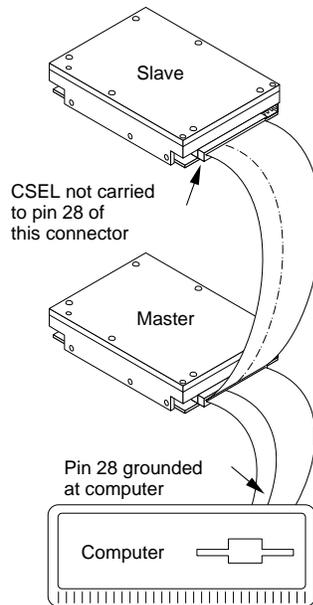

Figure 5. Connecting cable-selected drives
- Connect the drives to the cable as shown in Figure 5 on page 22.